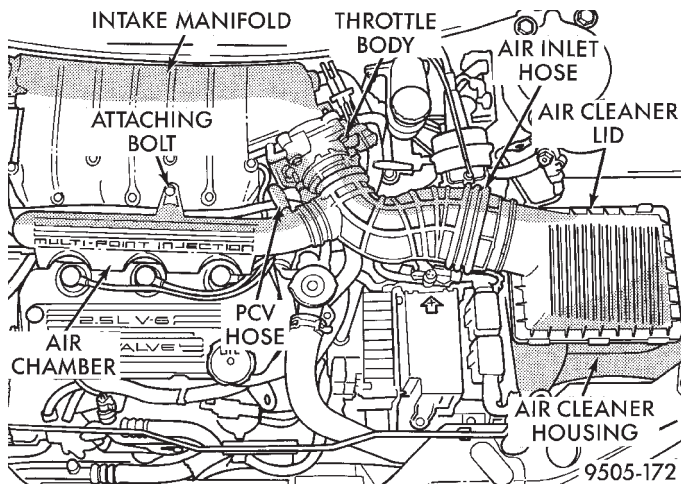
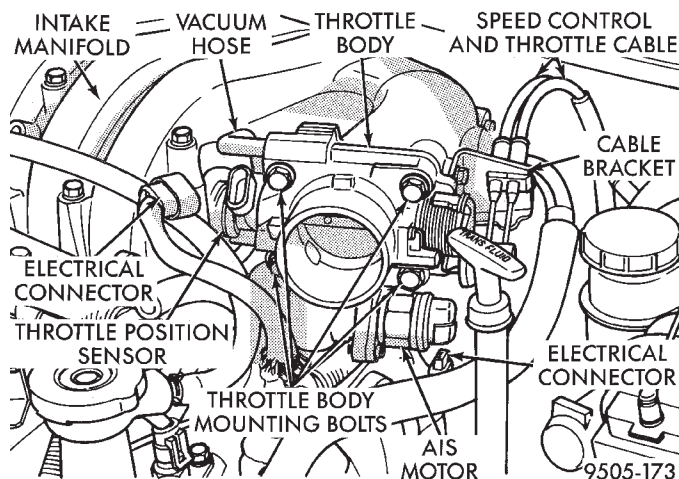

**Fig. 103 Engine Air Intake System Components**
**Fig. 104 Throttle Body Attachment To Intake Manifold**
(3) Remove the PCV hose (Fig. 103) from the air chamber located on the front of the intake manifold. Remove bolt (Fig. 103) attaching the air chamber to the intake manifold. Then unlatch lid of air cleaner from air cleaner housing and loosen clamp attaching air inlet hose to throttle body (Fig. 103). Remove the air cleaner lid, air inlet hose and air chamber (Fig. 103) as an assembly from the engine.
(4) Remove the throttle cable and if equipped the speed control cable from the throttle body (Fig. 104). Remove the vacuum hose (Fig. 104) from the throttle body. Remove the wiring harness connectors from AIS motor and the Throttle Position Sensor (Fig. 104) on the throttle body. Then, remove the 4 bolts (Fig. 104) attaching the throttle body to the intake manifold and remove it from intake manifold.
(5) Without removing cables from bracket, remove the throttle and speed control cable mounting bracket (Fig. 104) from the intake manifold.
(15) Install the throttle body and a **NEW** gasket on the intake manifold. Install the 4 throttle body attaching bolts (Fig. 104) and tighten to a torque of 22 N·m (200 in. lbs.).
(16) Install the vacuum hose (Fig. 104) on the throttle body. Install the wiring harness connectors on the AIS motor and the Throttle Position Sensor (Fig. 104) located on the throttle body.
(17) Install the mounting bracket for the throttle cable and speed control cable onto the intake manifold and securely tighten the mounting bolts.
(18) Install the throttle cable, and if equipped, the speed control cable on the cam of the throttle body assembly.
(19) Install the air cleaner lid, air inlet hose and air chamber (Fig. 103) as an assembly on the engine. Latch lid of air cleaner to air cleaner housing. Securely tighten the clamp attaching the air inlet hose to the throttle body (Fig. 103). Install and securely tighten the bolt attaching the air chamber to the intake manifold (Fig. 103).